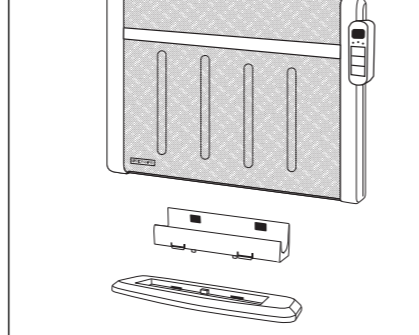

Fig. 5
- L. Mounting Bracket (Figure 5)